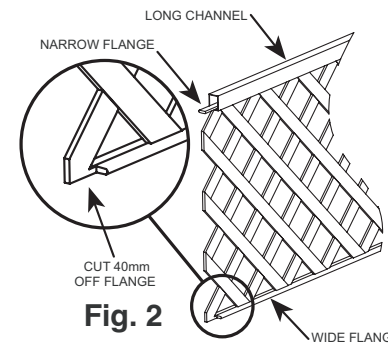

Fig. 2
- 3 There is a large flange on one edge of the Fence Extension Panel and a small flange on the other edge. Using a saw cut 40mm off the large flange on both sides of the panel at each end to allow it to fit into the channel as shown in Fig. 2.
- 1 Slide the long channel over the narrow flange of the fence extension panel as per Fig. 2,